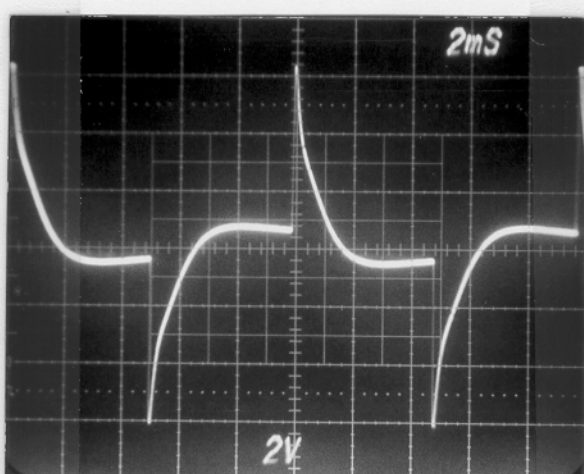
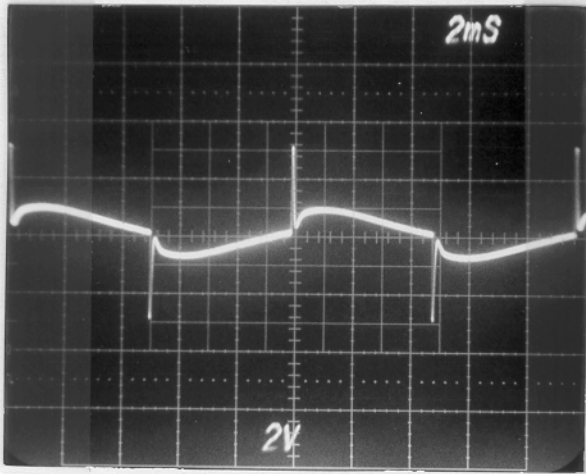

Fig. 6. Lo-Mid to 10.
Fig. 7. Lo-Mid to 0.
- C) Lo-mid to 10- Fig. 6; Lo-mid to 0- Fig. 7